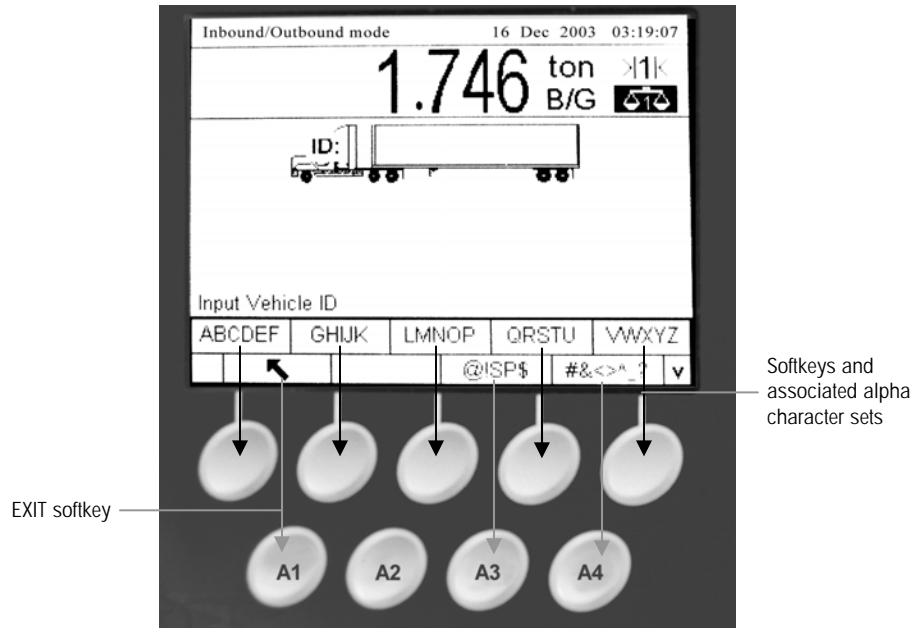

Figure 2-3: Alpha Keys
On some setup pages, softkeys and application keys function as alpha keys (see Figure 2-3) that are used to enter alphabetic characters for setup parameters such as passwords.
To use alpha keys, position the cursor in the data entry location (see Navigation Keys), press the softkey or application key associated with the desired set of alpha characters as shown in Figure 2-3. The softkeys change to display each alpha character included in the selected set of alpha characters. Use the UP and DOWN arrow navigation keys (see Figure 2-2) to switch between upper-case and lower-case characters. Press the key associated with the specific alpha character
2. Once the vehicle is on the scale, press the VEHICLE ID softkey. A vehicle ID prompt displays with a cursor in the Vehicle ID field. The softkeys and application keys become alpha keys (see Figure 2-3).